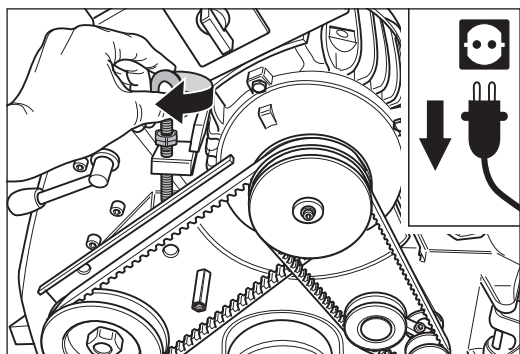

Fig. 34 Put the V-belts back on and tighten them with the tensioning bolt at the motor.
- 7 Mount the V-belts and tension them by turning the eye bolt at the motor clockwise (Fig. 34).